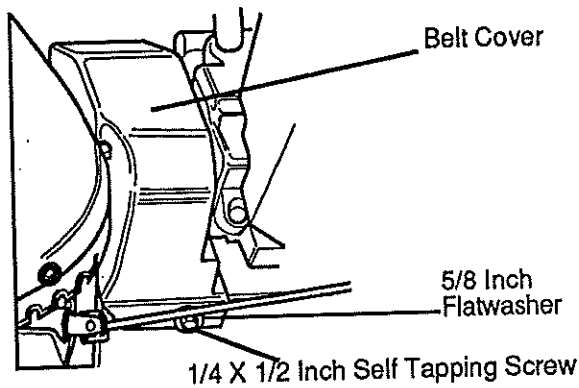

FIG. 5-SERV & ADJ
- Remove the belt cover (See FIG. 5-SERV & ADJ).